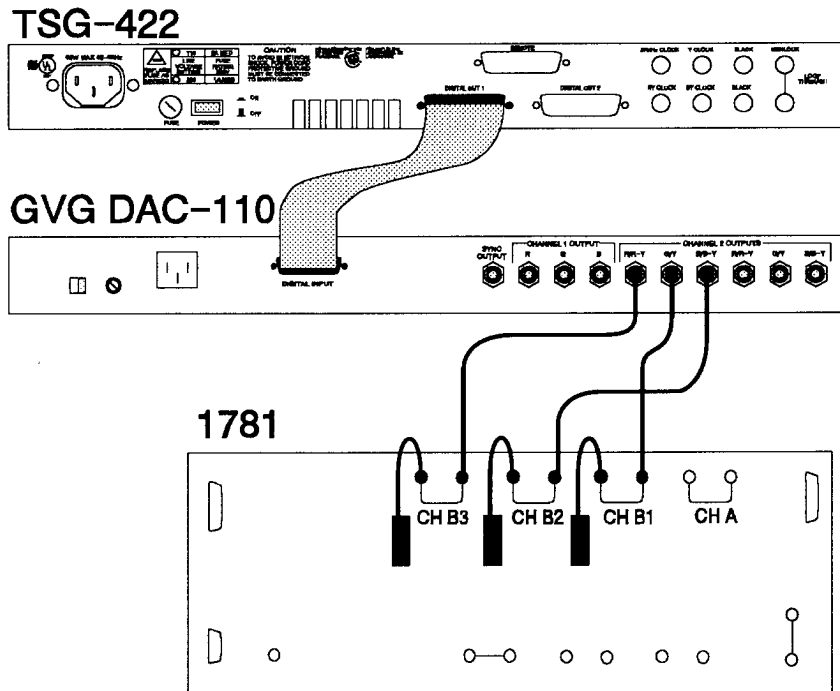

Fig. 5-11. Setup for checking the test signals.
- Connect the test equipment as shown in Fig. 5-11.